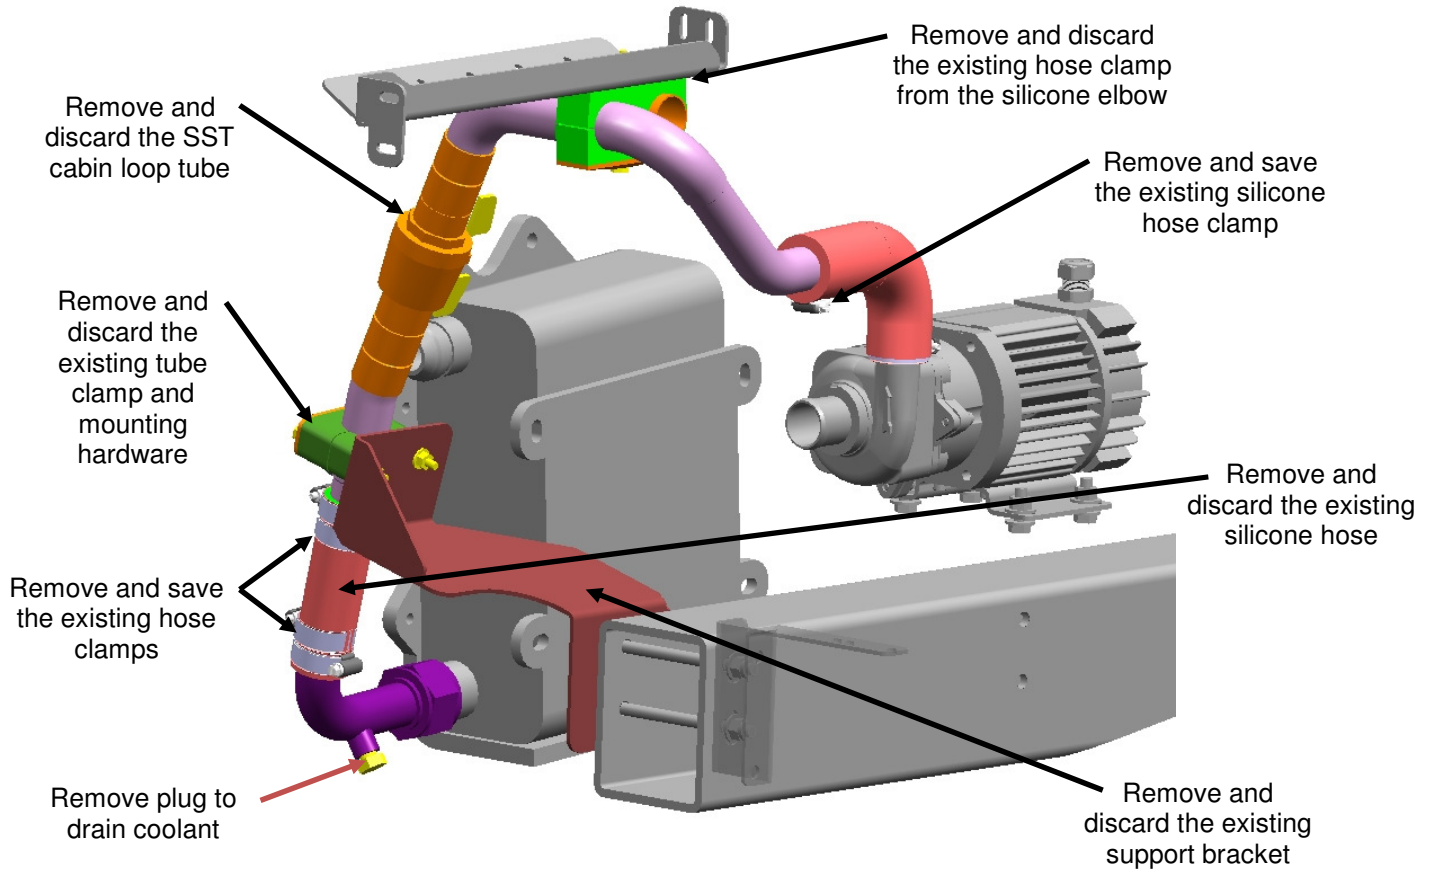

Figure 2: Cabin Heat Coolant Tube Removal
4. Place a suitable container under the heat exchanger cabin loop drain plug. Remove and save the drain plug and drain cabin heat coolant circuit. See Figure 2.
6. Remove and discard the existing tube clamp and mounting hardware supporting the heat exchanger cabin loop SST tube to the de-gas frame as shown in Figure 2.
7. Remove and discard the existing tube clamp and mounting hardware supporting the heat exchanger cabin loop SST tube to the clamp mounting bracket (bracket may vary in appearance) as shown in Figure 2.
8. The cabin heat coolant tube support clamp mounting bracket may vary in appearance, remove the bolts from the forward lower radiator tube mounting bracket, remove and discard existing cabin heat coolant tube bracket and re-install the lower radiator tube mounting bracket bolts. Torque bolt (x2) to 40-70 in*lbs dry, see Figures 2.
9. Remove and save the existing hose clamp from the silicone elbow on the booster pump line to the SST cabin loop tube, see Figure 2.
10. Remove and save the existing hose clamps (x4) from the silicone hose connecting the heat exchanger 90° SST elbow to the SST tube to the booster pump, see Figure 2.
11. Remove and discard the existing silicone hose and SST cabin loop tube, see Figure 2.